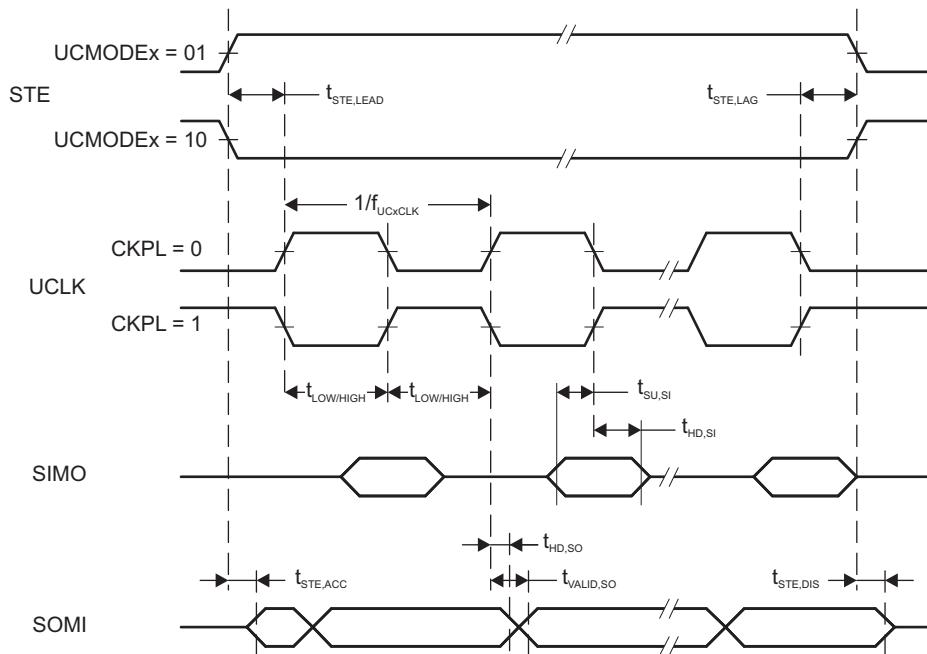
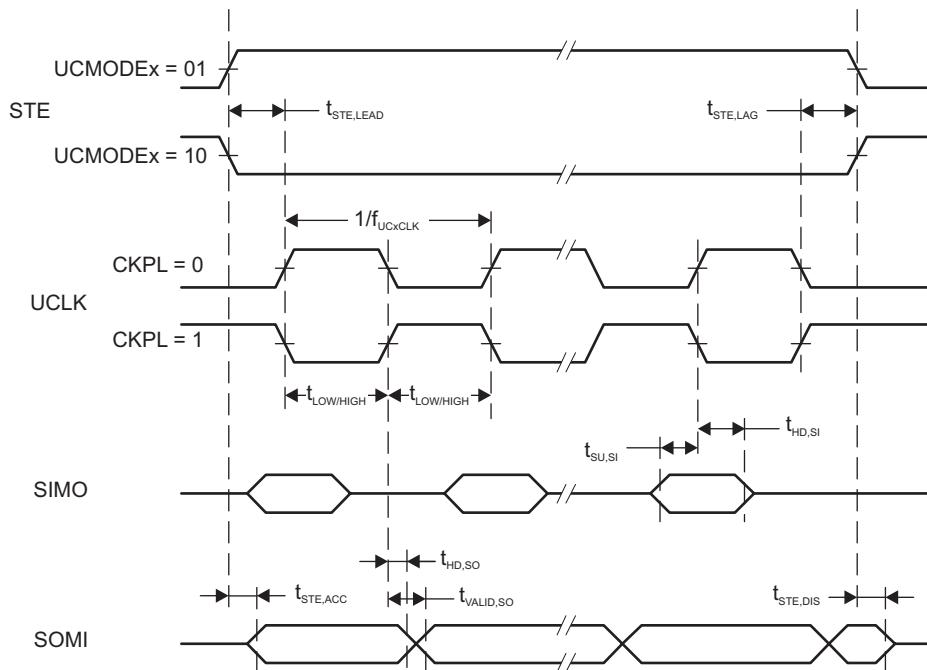

Figure 5-17. SPI Slave Mode, CKPH = 0
Figure 5-18. SPI Slave Mode, CKPH = 1
(2) Specifies the time to drive the next valid data to the SOMI output after the output changing UCLK clock edge. See the timing diagrams in Figure 5-17 and Figure 5-18.
(3) Specifies how long data on the SOMI output is valid after the output changing UCLK clock edge. See the timing diagrams in Figure 5-17 and Figure 5-18.